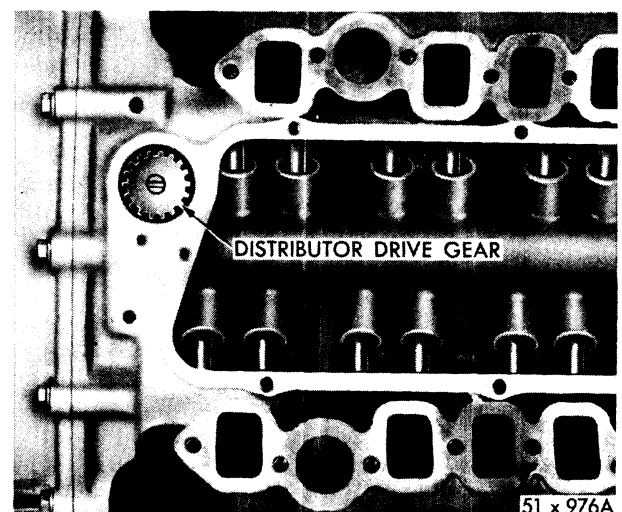

Fig. 160—Distributor (Basic) Timing
- (1) Rotate the crankshaft until Number One cylinder is at the top dead center (firing position). When in this position, the pointer on the chain case cover should be over "DC" on the vibration damper.
- (2) Using Tool C-3027, position the oil pump shaft so that it lines up with the slot in the drive gear, as shown in Figure 160.
- (3) Coat the shaft of the drive gear with engine oil, then install so that as the gear spirals into position it will index with the oil pump shaft and the slot in the top of the drive gear will be parallel with the centerline of the crankcase, as shown in Figure 160.